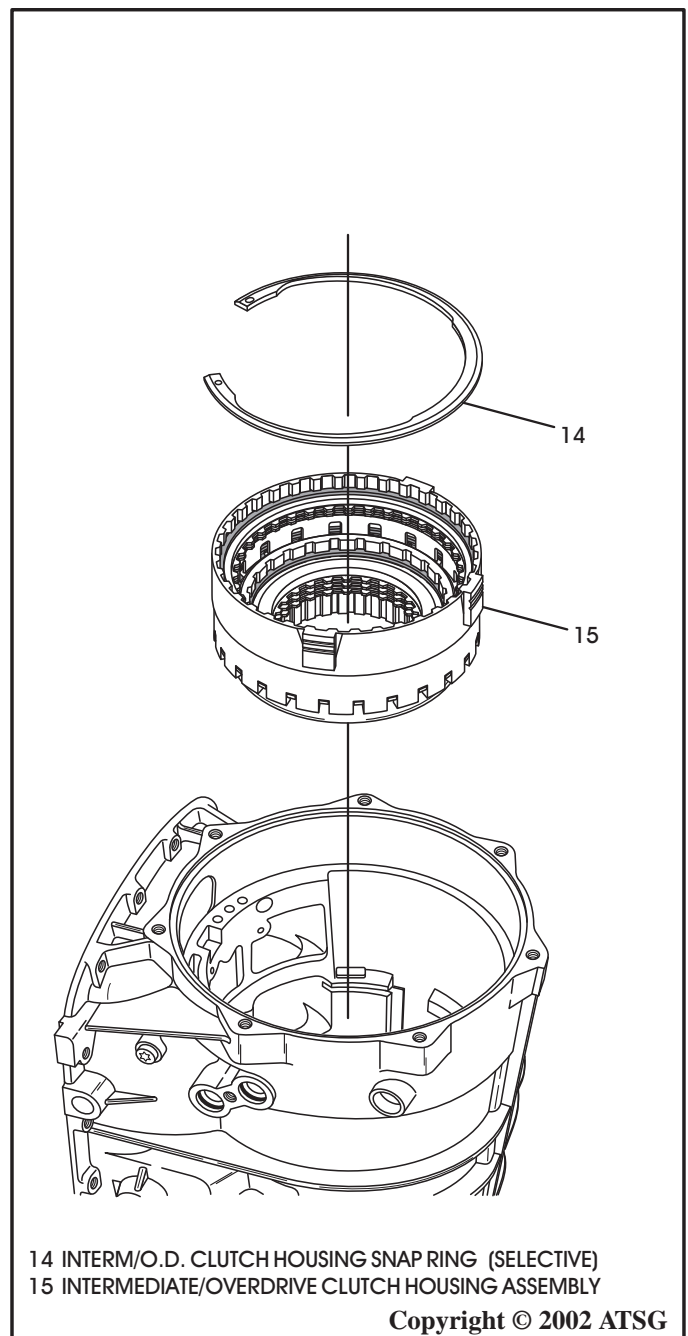

Figure 178
6. Install pre-assembled intermediate/overdrive clutch housing, as shown in Figure 178. Rotate the output shaft back and forth until it is fully seated and engaged on the low sprag race.